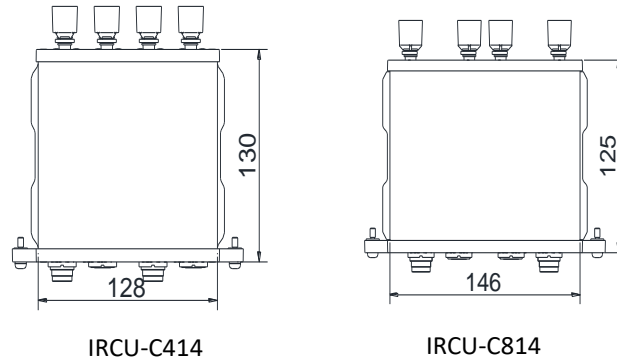

Figure 1 IRCU Outline
1. IRCU outline shown in Figure 1.